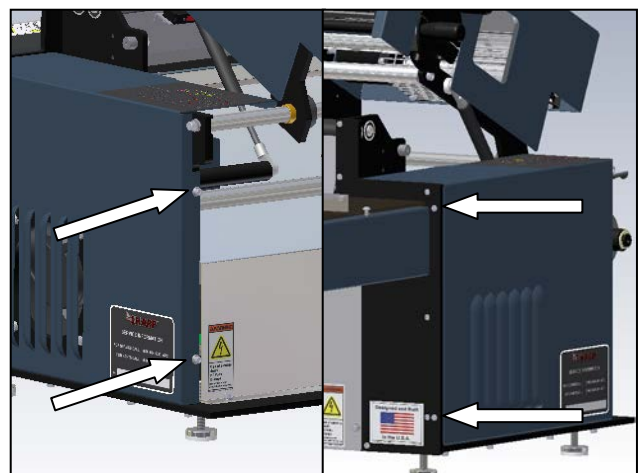

Figure 3-92. Outside Cover - Right Screws
3. Remove the Outside Cover – Right (Figure 3-92).